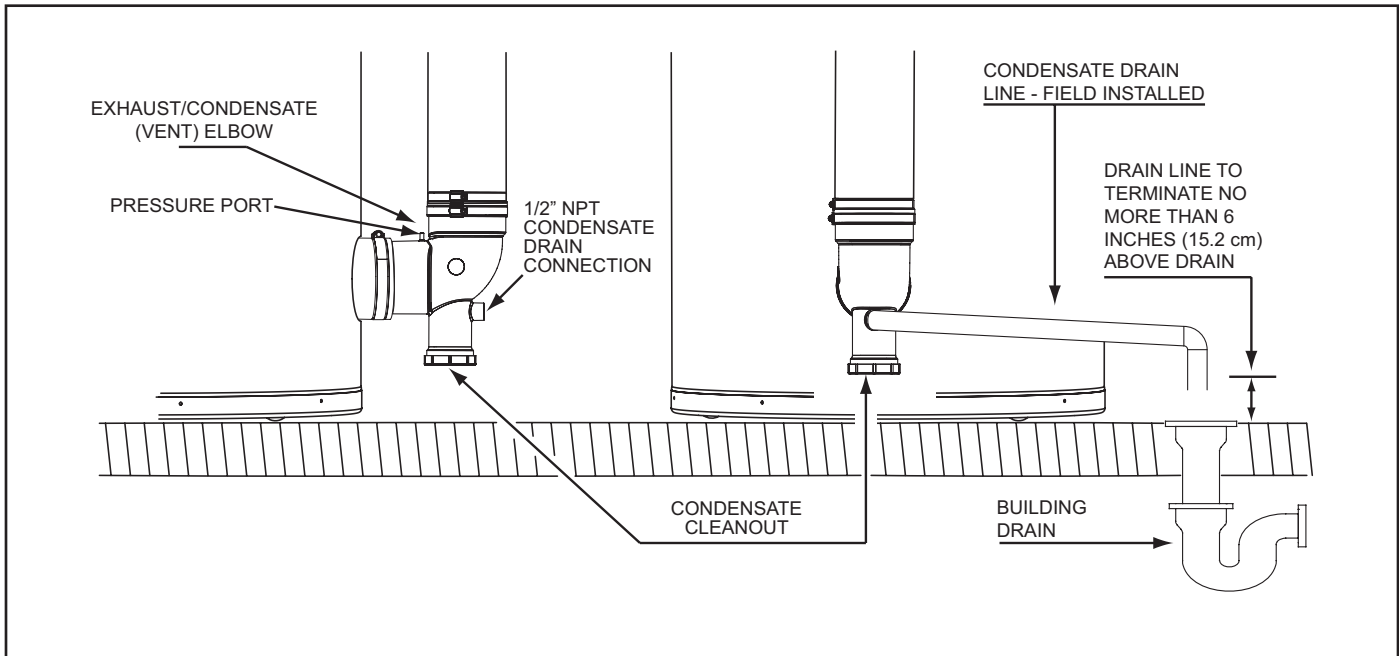

Figure 46
2. Install a 1/2 inch PVC condensate drain line between the condensate drain connection on the Exhaust/Condensate Elbow and a suitable building drain. The exhaust elbow has a "built in" condensate trap. Do not install an additional trap in the condensate drain piping, Figure 46.
3. Terminate the condensate drain piping with an elbow above the drain. Ensure that any discharge will exit the condensate drain line no more than 6 inches (15.2 cm) above a suitable building drain, or external to the building, see Figure 46.
4. Ensure the condensate drain line is not elevated above the condensate drain connection on the exhaust/condensate elbow, see Figure 46.